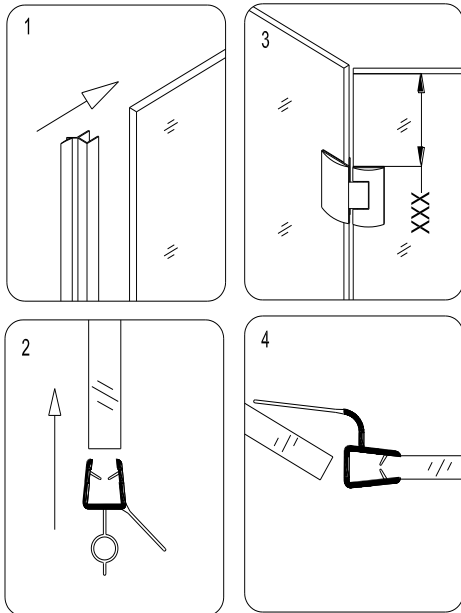

Fig. 7
9. Measure the distance between the top edge of the glass door and upper edge of the top hinge. Cut the piece off the **Side strip (13)** with a knife in the length according to your measurement. Repeat it to prepare the short strip for the lower section of the glass door. Then measure the distance between the bottom edge of the top hinge and the upper edge of the bottom hinge and cut the rest of the strip to size. Open the door to its full section and push all the strip lengths onto the vertical edge of glass door. Push the **Bottom anti-water strip (15)** on the bottom edge of the glass door and the **Anti-water strip (14)** on the vertical edge of the stationary glass 2. See fig. 7 for details.